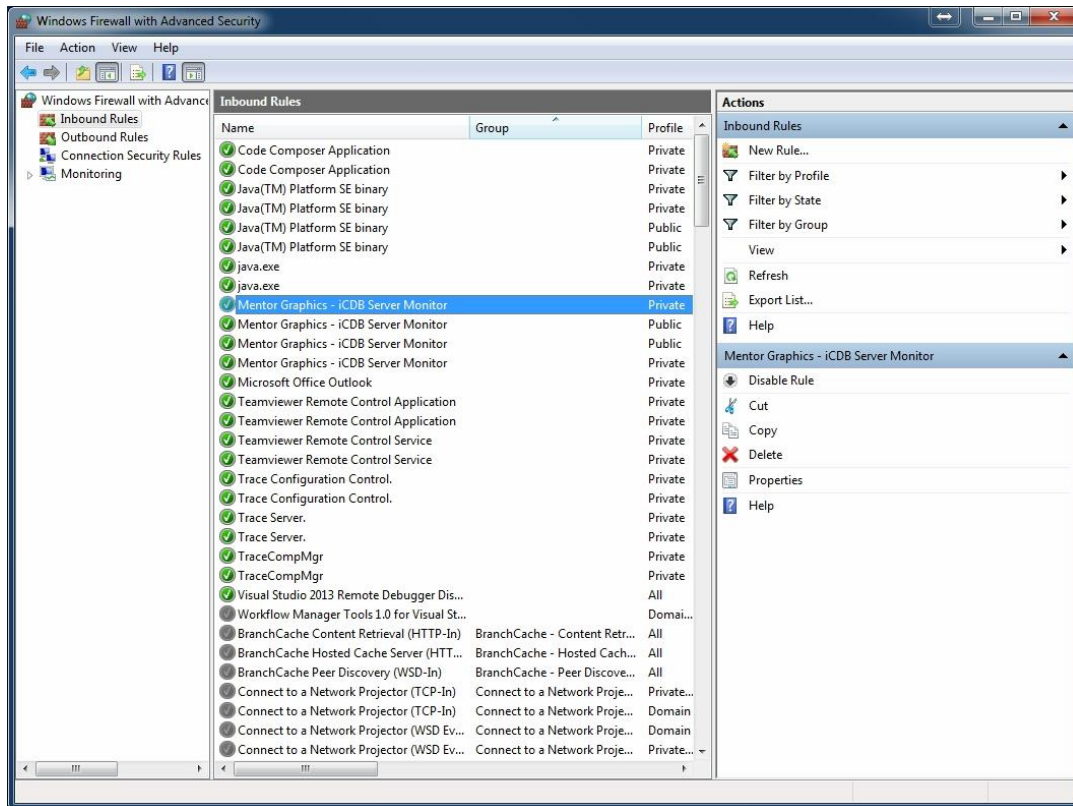

Figure 2-10 Windows Firewall – Advanced Security New Rule
Step 5: From the window below, select the “New Rule” option under the ACTIONS window pane on the right. Refer to Figure 2-10.